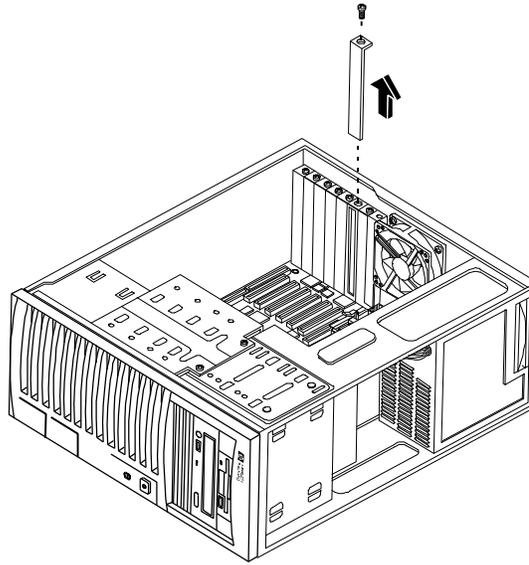

Figure 6-2. Removing the Accessory Slot Cover
7. Use the T15 driver or flat blade screw driver to remove the PCI slot cover for each slot to be used, and store it for future use (see Figure 6-2).